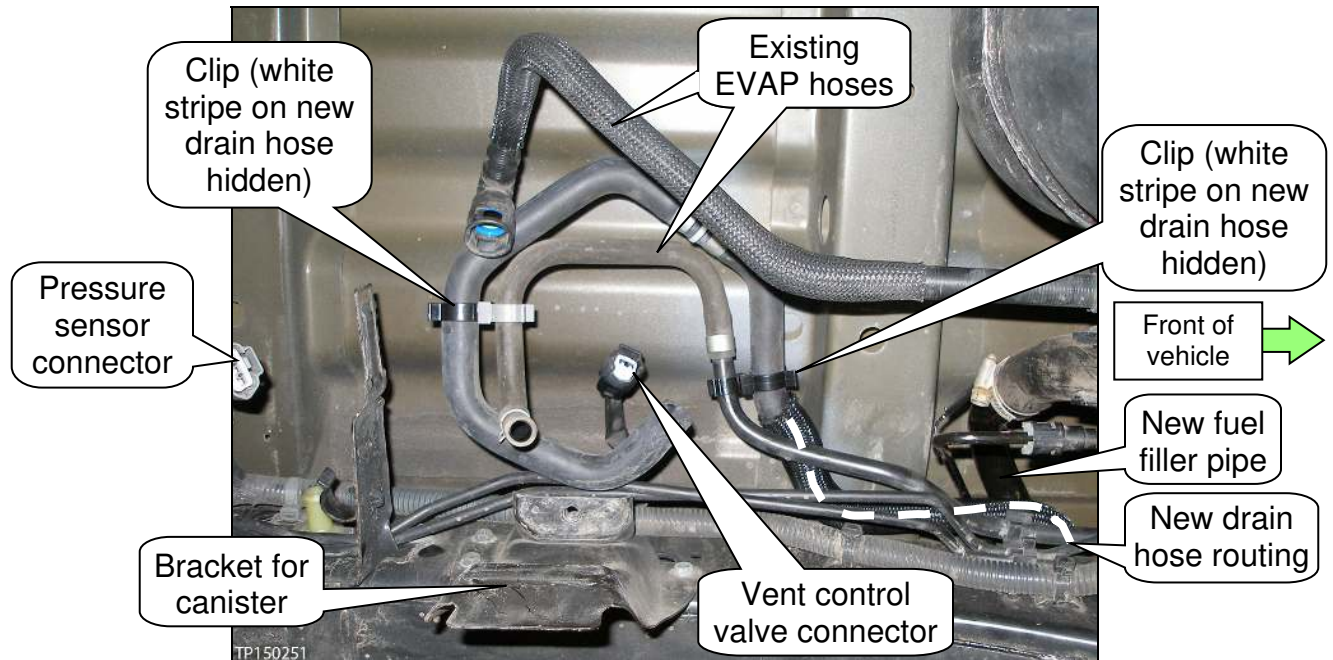

Figure 6: King Cab and long wheel base Crew Cab
5. Route the new drain hose and attach with clips as shown in Figures 6 and 7 (as they apply).
- Figures 6 and 7 are viewed while looking up under the vehicle bed.